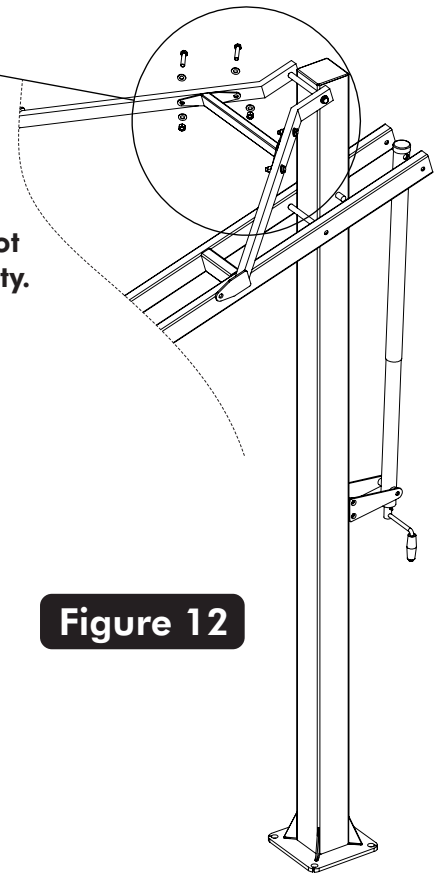

Figure 12
18. With the help of another adult attach the Cross brace (#52) with four Bolts (#50), eight Washers (#3) and four Locknuts (#4) as shown in Figure 12 and Detail C.
20. Mount Goal Assembly (#28) and Rim Pad (#27) to Backboard, as shown in Figure 12, using four bolts (#29), washer (#26) and four nuts (#24). Tighten Fasteners but leave loose enough to level rim.